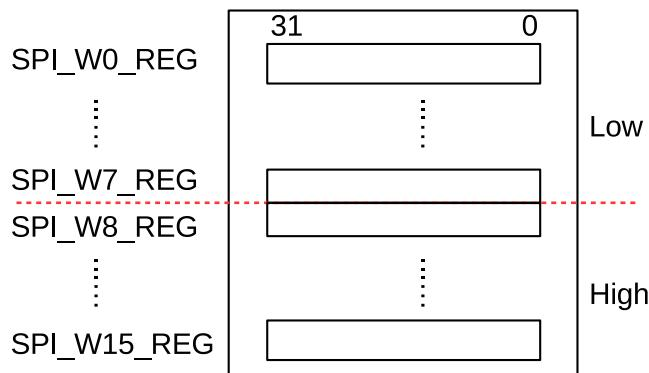

Figure 27-2. Data Buffer Used in CPU-Controlled Transfer
GP-SPI2 provides 16 x 32-bit data buffers, i.e., SPI\\_W0\\_REG ~ SPI\\_W15\\_REG, see Figure 27-2. CPU-controlled transfer indicates the transfer, in which the data to send is from GP-SPI2 data buffer and the received data is stored to GP-SPI2 data buffer. In such transfer, every single transaction needs to be triggered by the CPU, after its related registers are configured. For such reason, the CPU-controlled transfer is always single transfers
- SPI Buffer: `SPI_W0_REG ~ SPI_W15_REG`, see Figure 27-2. The data transferred in CPU-controlled mode is prepared in this buffer.